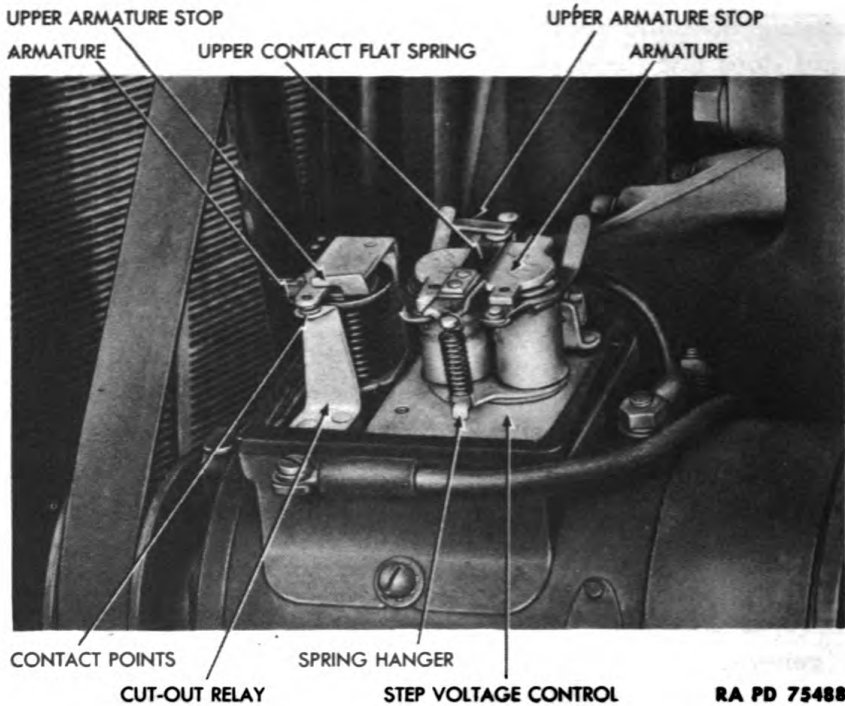

Figure 22 — Compressor Unit Generator Control Unit — Cover Removed
(20) MECHANICAL ADJUSTMENT OF STEP-VOLTAGE CONTROL (UNIT DISCONTINUED) (fig. 22).
(21) ADJUSTMENT OF OPENING AND CLOSING VOLTAGE OF STEP-VOLTAGE CONTROL (fig. 22).
(22) ADJUSTMENT OF CUT-OUT RELAY (fig. 22).